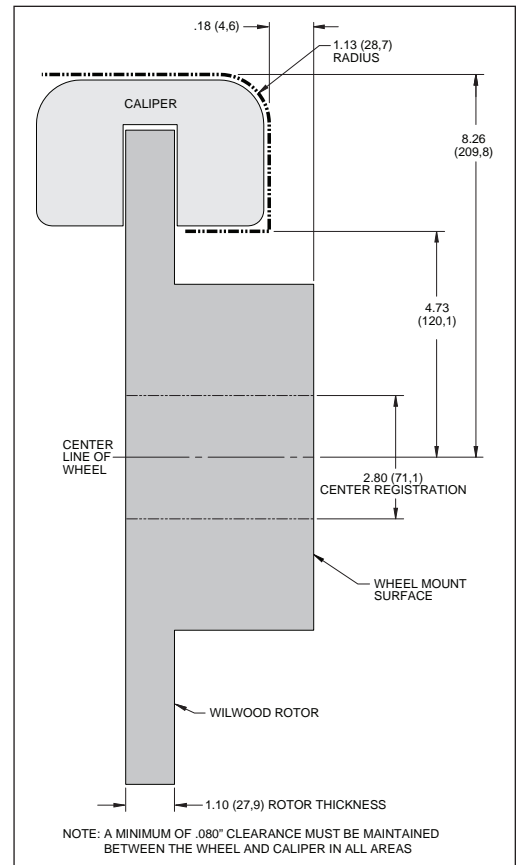

Figure 3. Wheel Clearance Diagram
- Review the Wheel Clearance Diagram (Figure 3, page 4) to verify that there is adequate clearance with the wheels you will be using with the installation.
• Verify your wheel clearance using Figure 3.